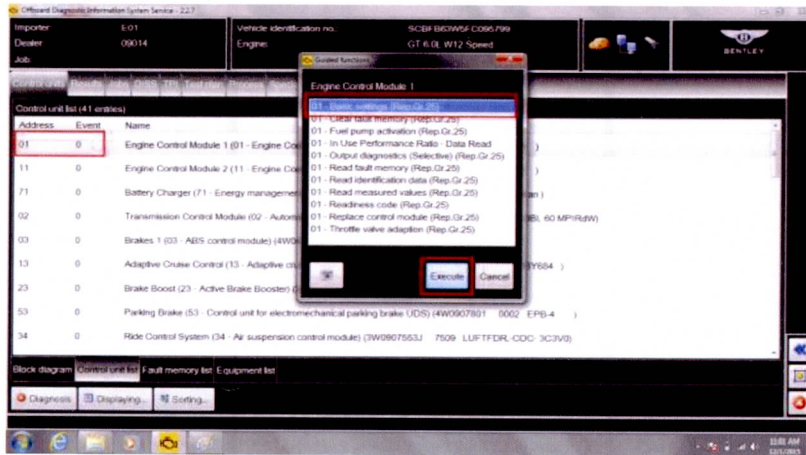

Figure 13
2. Within Engine Control Module 1, Select *01-Basic settings* and then *Execute* (see Figure 13)